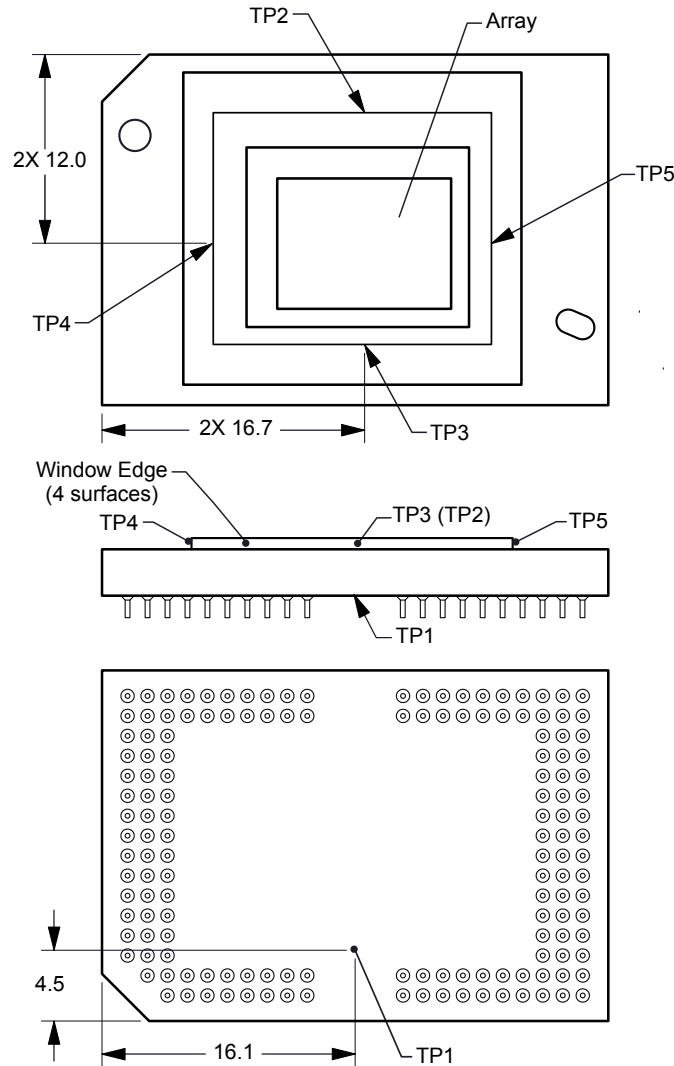

図 6-1. DMD Thermal Test Points
Micromirror array temperature cannot be measured directly, therefore it must be computed analytically from measurement points on the outside of the package, the package thermal resistance, the electrical power, and the illumination heat load. The following equations show the relationship between array temperature and the reference ceramic temperature, thermal test TP1 図 6-1 shown above:
- T_{CERAMIC} = Measured ceramic temperature (°C), TP1 図 6-1
- $R_{\text{ARRAY-TO-CERAMIC}}$ = Thermal resistance of package specified in セクション 5.5 from array to ceramic TP1 図 6-1 ($^{\circ}\text{C}/\text{W}$).
- Q_{ARRAY} = Total DMD Power (electrical + absorbed) on array (W).
- $Q_{\text{ELECTRICAL}}$ = Nominal electrical power (W)
- Q_{INCIDENT} = Incident illumination optical power (W)
- $Q_{\text{ILLUMINATION}}$ = (DMD average thermal absorptivity $\times Q_{\text{INCIDENT}}$) (W)